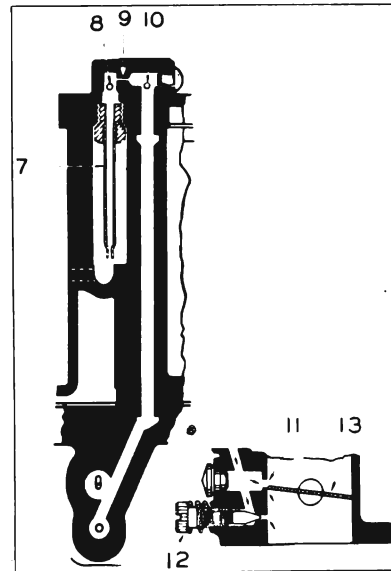

Fig. 6-77. Low Speed Circuit
The idle and low speed circuit consists of the low speed jet (7), by-pass (8), economizer (9), air bleed (10), port opening (11), idle adjustment screw (12), throttle valve (13). See Fig. 6-77.